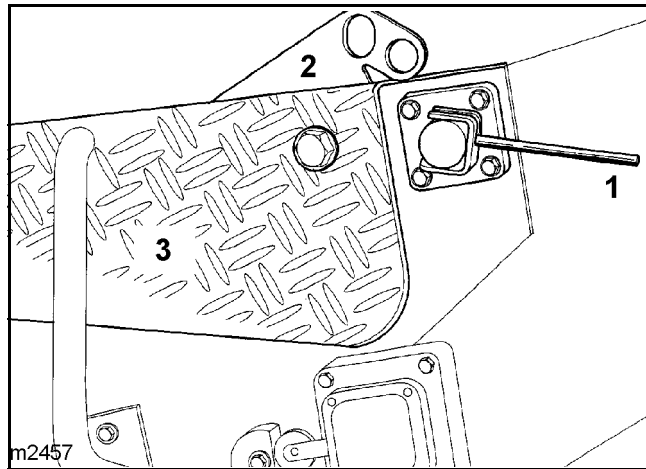

Fig. 185 Covering for hopper
- Unlock the safety bolt (1) (**Fig. 185**).
- Lift the cover (3) until the bolt can be slid into one of the holes on the locking bar (2).
The locking bar (2) (**Fig. 185**) has two holes because the possible opening angle of the cover varies in some machines.